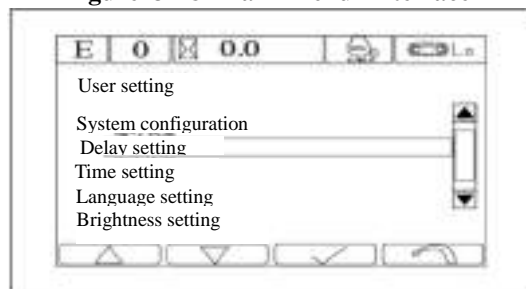

Figure 3-29 User setting interface
b) Press UP and DOWN icons F1 and F2 at the user setting interface to select time adjustment and press F3 for confirmation; the interface is shown in Figure 3-29.